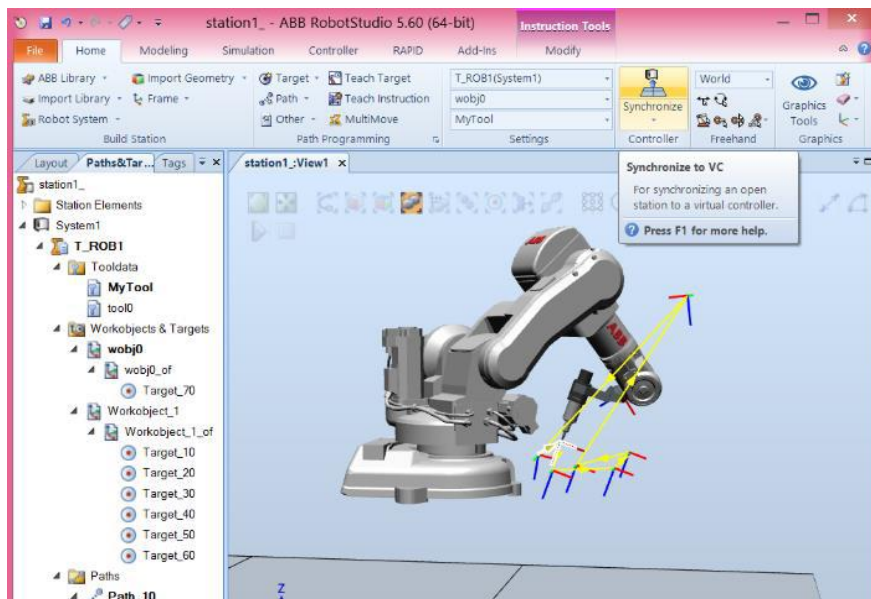
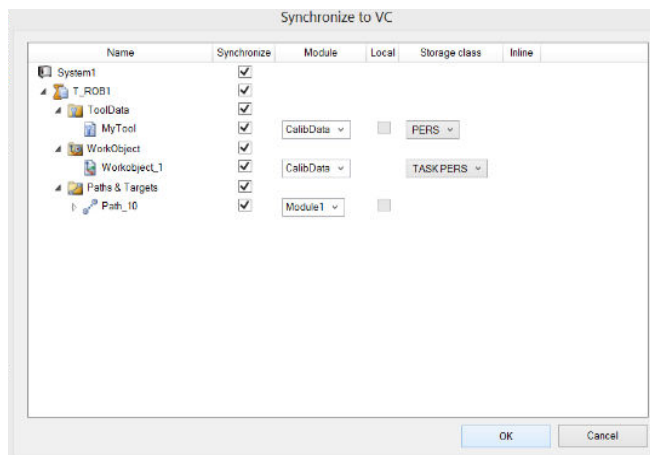

Figure 3.24. RobotStudio® - Synchronization with virtual controller (VC)
Figure 3.25. RobotStudio® - Synchronization with VC – select the equipment
It is time to simulate the robot movements based on the program we created. First, synchronize with the robot's virtual controller (VC) - this means that we have to upload the created program into the robot's controller (Figure 3.24, Figure 3.25).